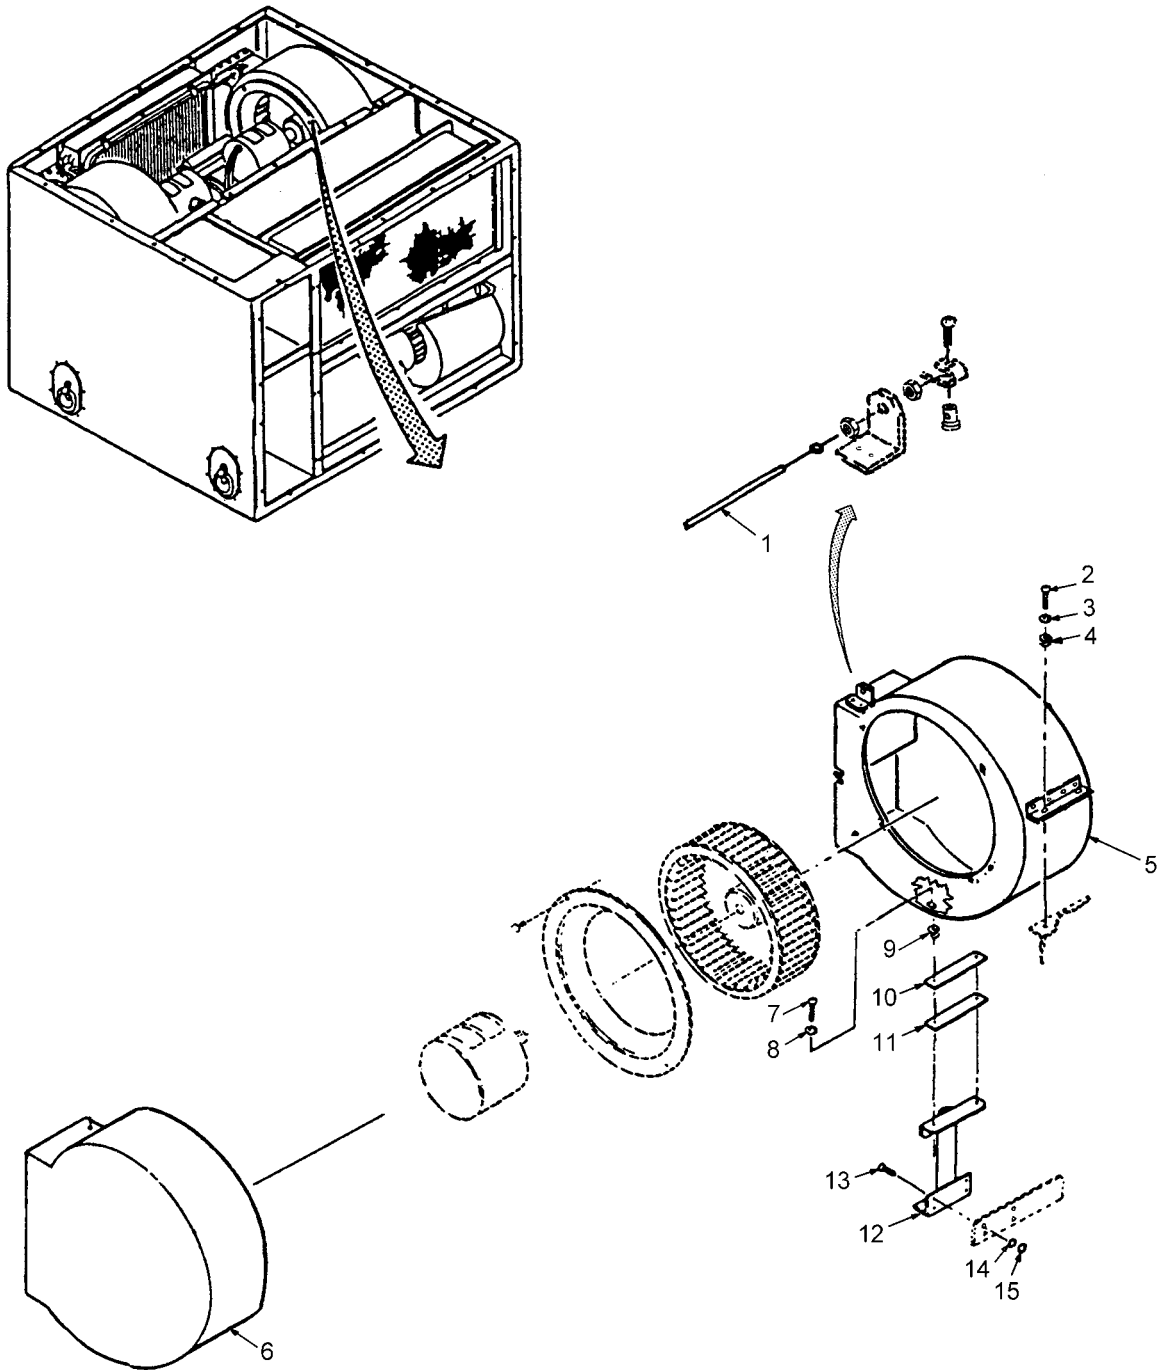
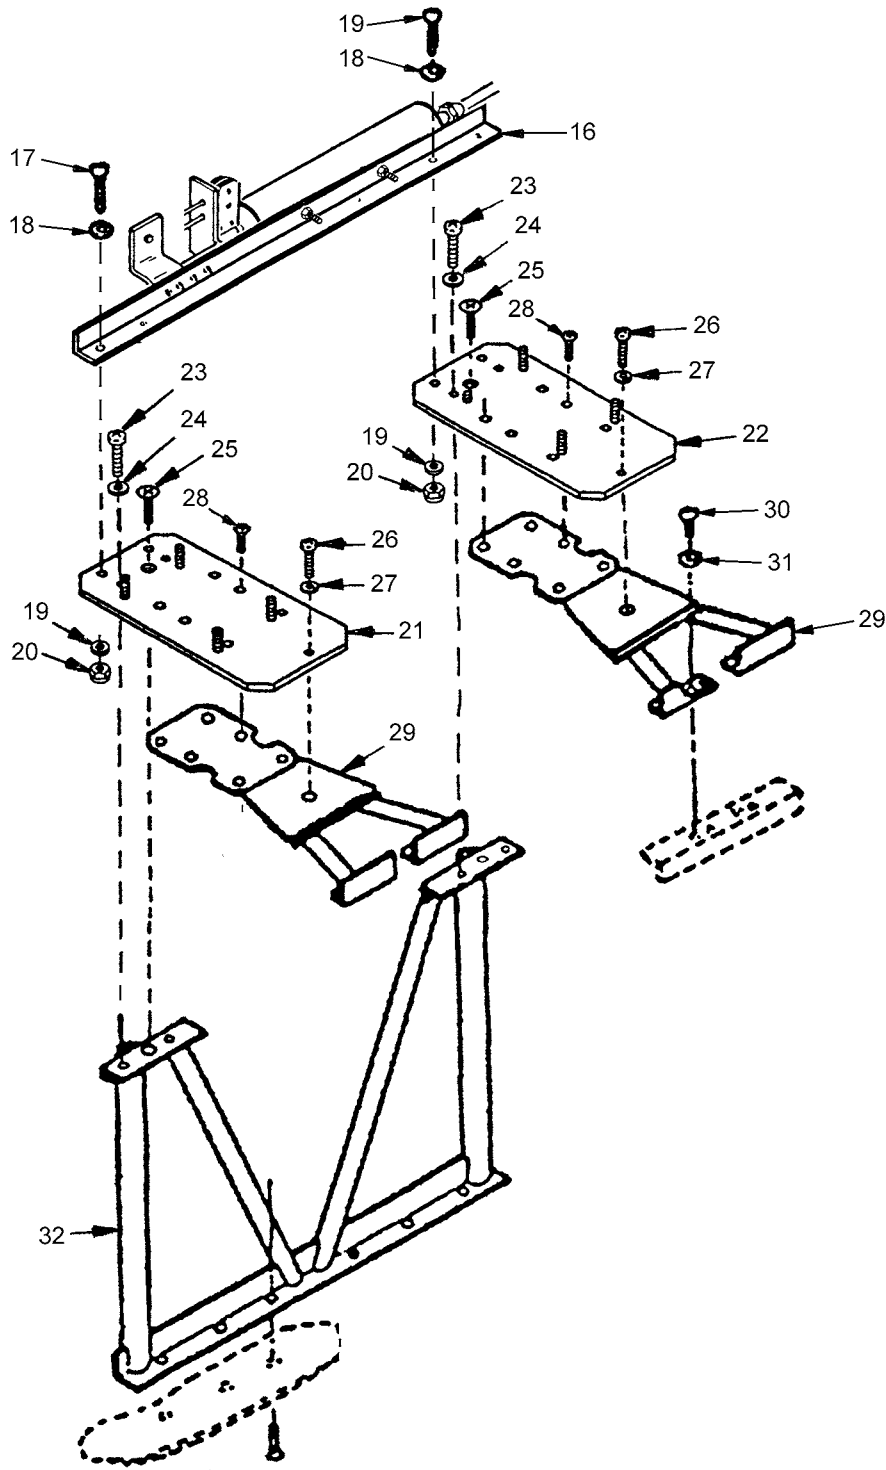

Figure 1. Condenser Scrolls
Figure 2. Condenser Fan Motor Mounts, Supports and Brackets
1. Remove louver actuator cables (1) (figure 1) from unit. Refer to WP 0032-00 for instruction on removal of cables and replacement of defective/damaged components.
2. Remove actuator mounting bracket and damper actuator cylinder subassembly (16) from motor mounting brackets (21) and (22) by removing four screws (17) and four lockwashers (18). Carefully move the subassembly (16) away from the motor mounting bracket. See Figure 2.
3. Release service valve clamps from left hand scroll (5) and carefully move refrigerant tubing away from condenser fan scroll mounting area. See WP 0073-00.
4. Remove motor mounting bracket (22) by removing two screws (23), two lock washers (24), one screw (25), one screw (26), one lock washer (27), and six screws (28). See Figure 2.
5. Remove condenser motor brace (29) from condenser support (32) by removing four screws (30) and four lock washers (31). See Figure 2.
6. Remove two screws (2), two flat washers (3), and two grommets (4) from scroll (5). See Figure 1.
7. Remove two screws (7), two flat washers (8), two nonmetallic grommets (9), and spacers (10 and 11) to release scroll (5) from scroll support (12). Leave scroll support in place unless damaged, then replace.
9. Repeat for other condenser fan scroll (6) as required.
1. If removed, install scroll support (12) with two screws (13), two flat washers (14) and two nuts (15). See figure 1.
2. Position spacers (10 and 11), two grommets (9) and scroll (5) onto scroll support (12) and secure with two screws (7) and two flat washers (8).
3. Install two grommets (4), two flat washers (3) and two screws (2).
4. Install condenser motor brace (29) with four screws (30) and four lockwashers (31). See Figure 2.
5. Install motor mounting bracket (22) with two screws (23), two lockwashers (24), one screw (25), one screw (26), one lockwasher (27), and six screws (28).
6. Repeat steps (1 thru 5) for right hand scroll (6). See figure 1.
7. Install actuator mounting bracket and damper actuator cylinder subassembly (16) with four screws (17), and lock washers (18). See igure 2.
9. Secure service valve clamps to scroll (5). See WP 0073-00.
10. Install louver actuator cables (1). See WP 0032-00.